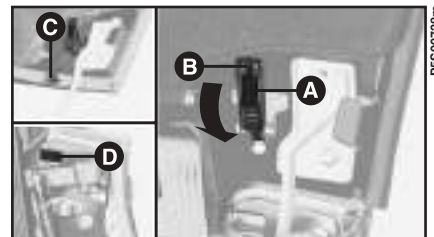

fig. 67
4) Push red safety buttons **A-fig. 67** upwards and release levers **B**.
5) Release hooks **C** from holes **D** (for the sole purpose of better showing anchorage points **D** in **fig. 67**, the guard on the car has been removed).